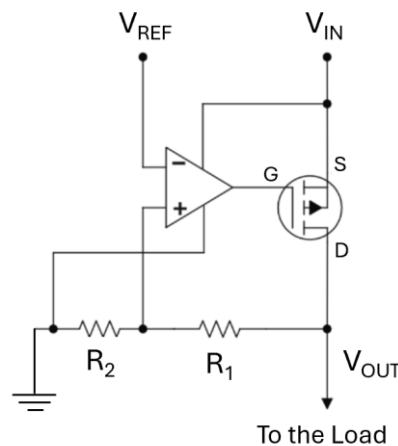

Figure 3. LDO with an operational amplifier and a pmos transistor
- a) The linear regulator (LDO) in Figure 3 has an input supply voltage V_{IN} of 12 V. Determine V_{REF} and the resistor values R_1 and R_2 , such that the LDO delivers an output voltage of 5 V.